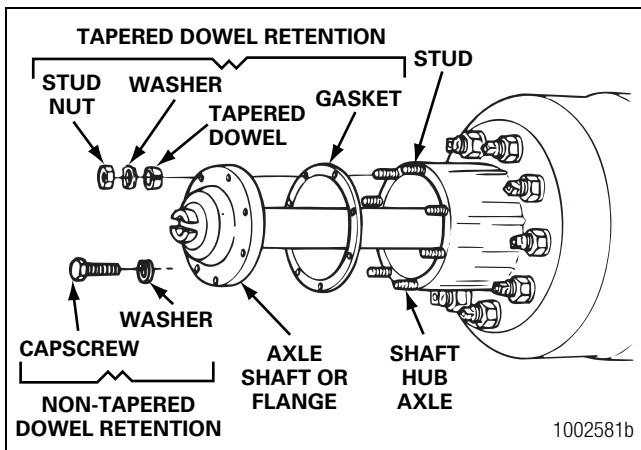

Figure 11.11
6. Remove the stud nuts or capscrews and washers from the flange of the axle shaft. Figure 11.11.
7. Loosen the tapered dowels, if used, in the flange of the axle shaft. Figure 11.11.
9. Remove the tapered dowels, gasket, if used, and the axle shaft from the axle assembly. Figure 11.11.
5. Install the gasket, if used, and axle shaft into the axle housing and carrier in the same location. The gasket and flange of the axle shaft must be flat against the hub. Rotate the axle shaft or the driveline as necessary to align the splines and the holes in the flange with the studs in the hub. Figure 11.11.